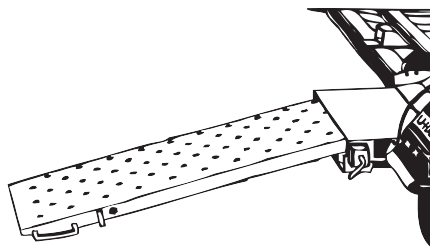

Figure 9
4. Continue pulling the ramp out until it stops, then lower it to the ground. (Figure 9) Both ramps must be pulled out completely to properly load the vehicle-in-tow without damaging the tow dolly or the vehicle-in-tow.